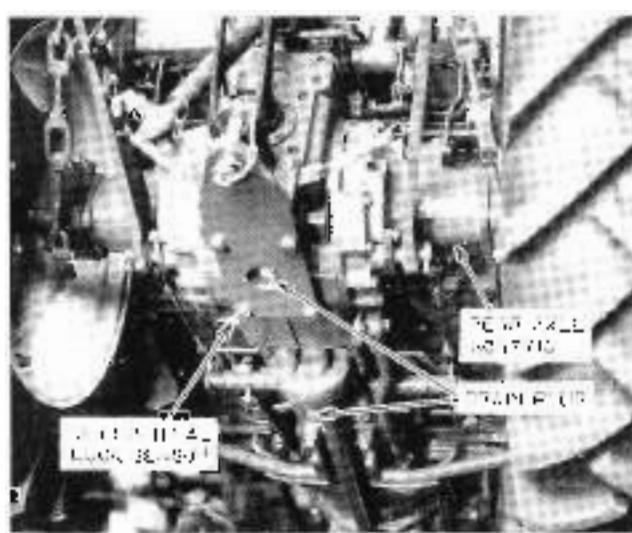

Figure 42 Transmission, Rear Axle Oil Drain Plugs and Filter
1. Warm the engine up for approximately 10 minutes by operating the transmission and rear axle selections. Figure 42. As you heat it, proceed down inside the machine. Detach the plug after the oil has drained. Discard the oil.
2. Insert the filter plug. Figure 42, and add oil through the type listed on page 24.